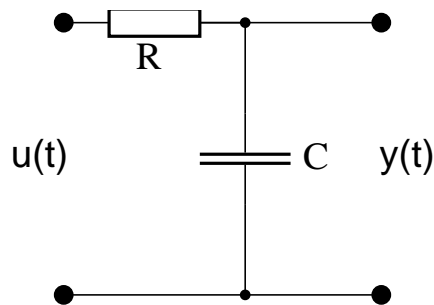

Figure 2.1: RC-circuit, a first order system
The system to be identified is a first order system given in Figure 2.1.
1. Derive the differential equation that describes the relationship between $y(t)$ and $u(t)$ for the system in Figure 2.1. Which type of filter is this (low-pass, high-pass, *etc.*)?